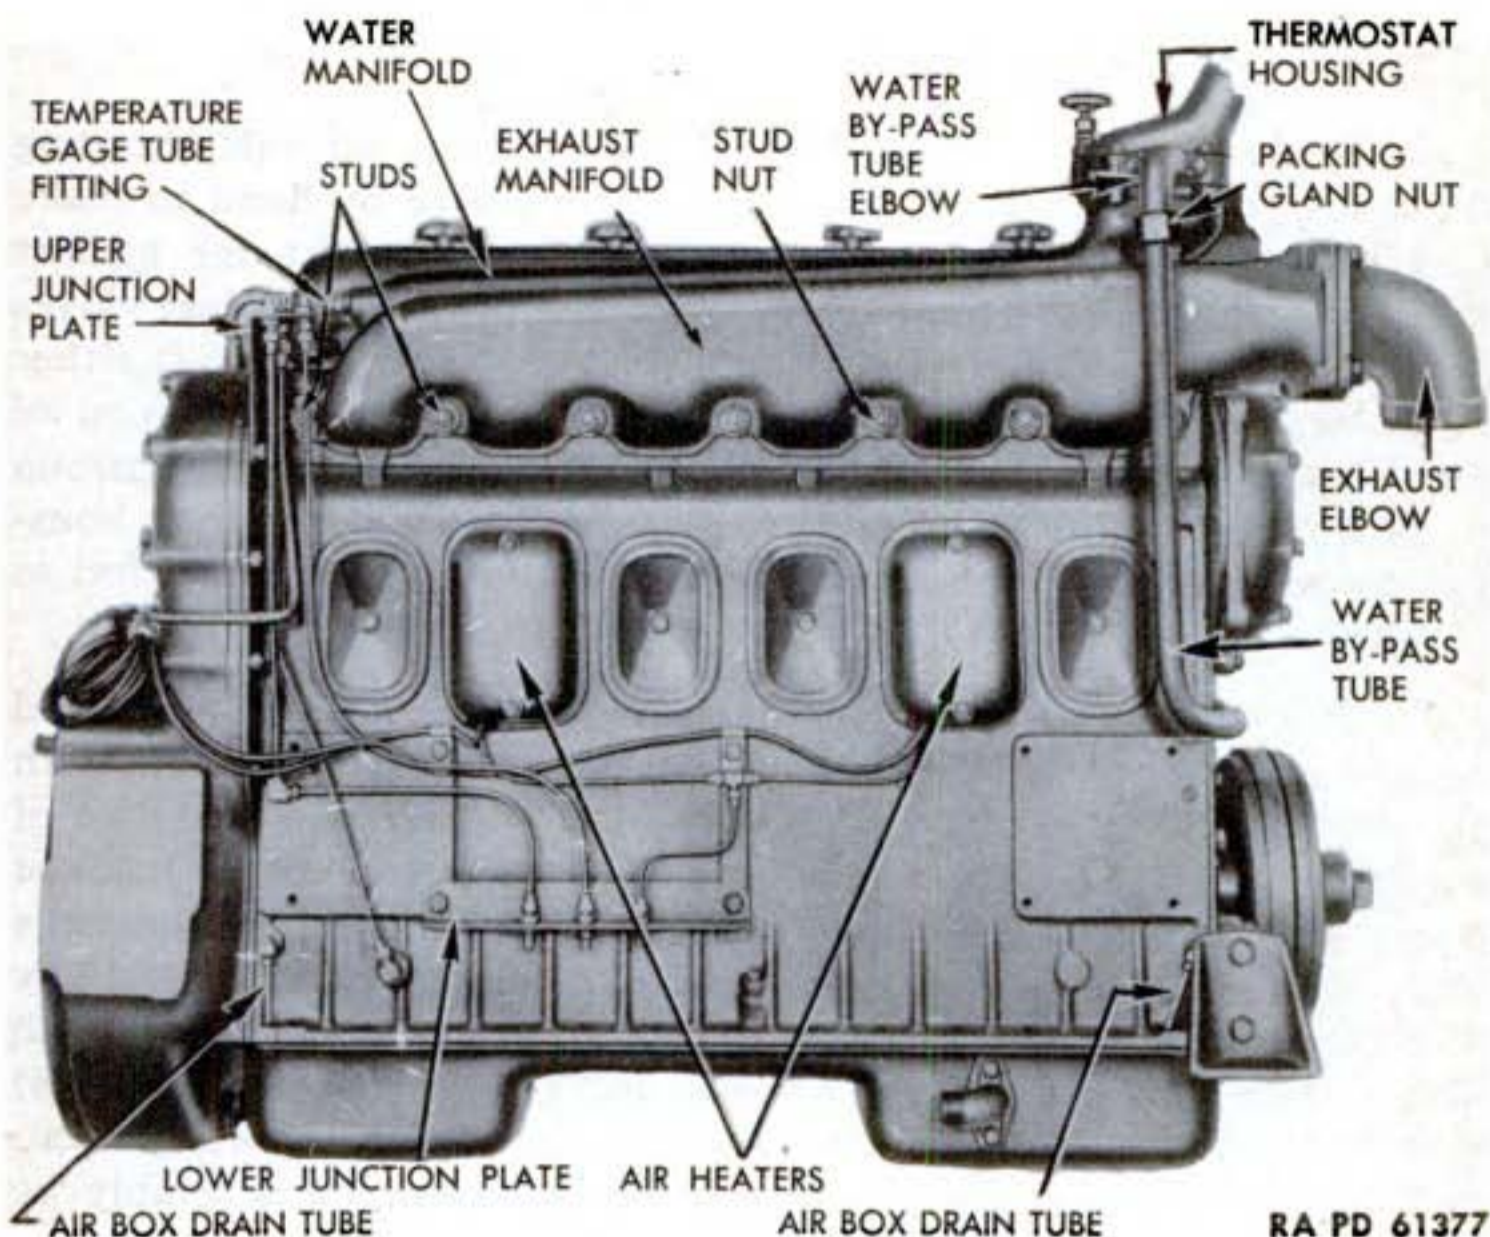

Figure 65—Inner Side of Right Engine
a. **Description.** The air box is the large chamber within the cylinder block extending over its entire length on both sides of the cylinders. The air box serves as an intake manifold to distribute the incoming air to the cylinders, under pressure from the blower, through ports in the cylinder walls and holes in the cylinder liners. The interior of the air box is inspected and cleaned through the handholes which are provided with removable covers, two on the outer side and four on the inner side of each engine (fig. 65). Cleaning of the air box must be referred to higher authority.
(1) **INSPECT AIR BOX DRAINS.** Remove engine compartment floor plates (par. 170 b). Start engines and run at 1,000 revolutions per minute. If a forceful stream of air can be felt at each end of the four air box drain tubes, the drains are open (fig. 65). If only a slight amount or no air at all is felt, the drain is clogged and must be cleaned.
a. Description. Two air heaters are installed in the second and fifth handholes on the inner side of each engine (fig. 65). The air
b. Removal of Air Heaters. Remove engine compartment floor plates (par. 170 b). Disconnect air heater fuel line at tee (fig. 65). Remove clamp which holds ignition wire in place under air heater. Loosen two bolts with lock washers which attach cover to air heater body. Slide cover down on air heater fuel line and ignition wire, until cover may be removed. Disconnect fuel line at elbow. Remove screw and lock washer attaching clip on fuel line at air heater body. Remove knurled nut from insulator and remove lead wire from electrode plug. Remove bolt, copper gasket, and flat washer attaching air heater body to cylinder block and remove air heater. Remove cork gasket and felt seal from cylinder block.